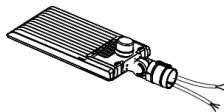
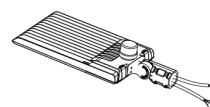

Fig. 2-1
Fig. 2
2. Install the bracket on the fixture. (Fig. 2, Fig. 2-1)